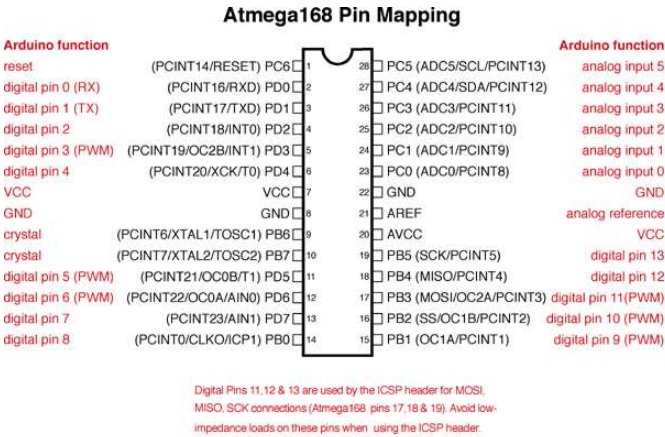

Fig. 1
- Complete Table 1 for all the digital pins using Fig. 1.